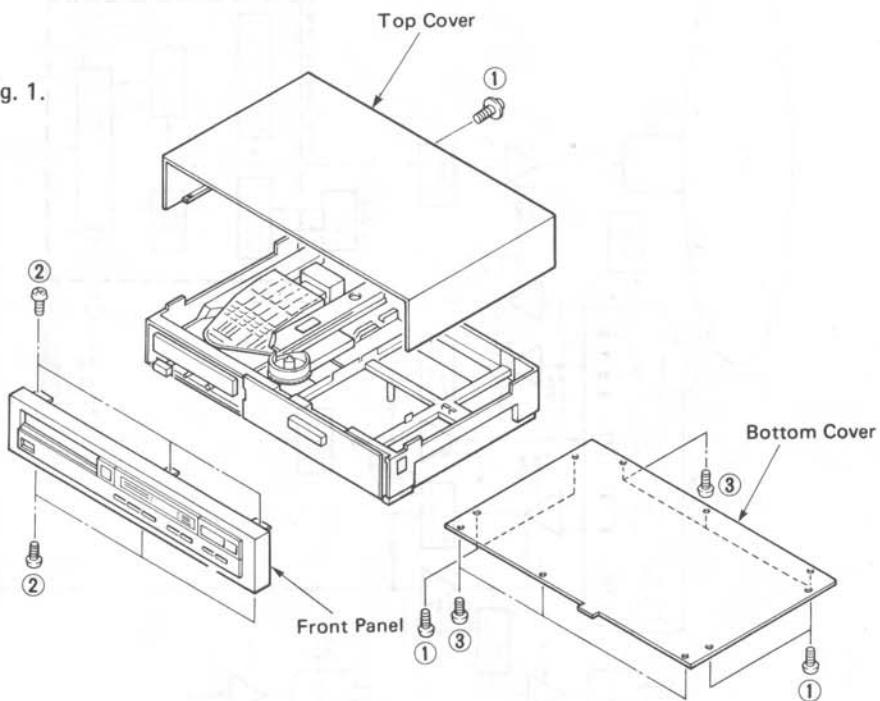

Fig. 1
② MAIN CIRCUIT BOARD
③ D/A CONVERTER IC: PCM54HP (IC115)
④ DISC MECHANISM UNIT
⑤ SVC LSI: YM3811 or YM3531 (IC110)
⑥ μ-COM IC: M6404A-124RS (IC112)
⑦ 16K bit SRAM IC (IC113)
⑧ SGP LSI: YM2601 or YM2201K (IC114)
Remove 5 screws (①) in fig. 1, and slide the Top Cover to the back.
Remove 7 screws (②) in Fig. 1, and pull the Front Panel forward.
Remove 6 screws (③) in fig. 1.